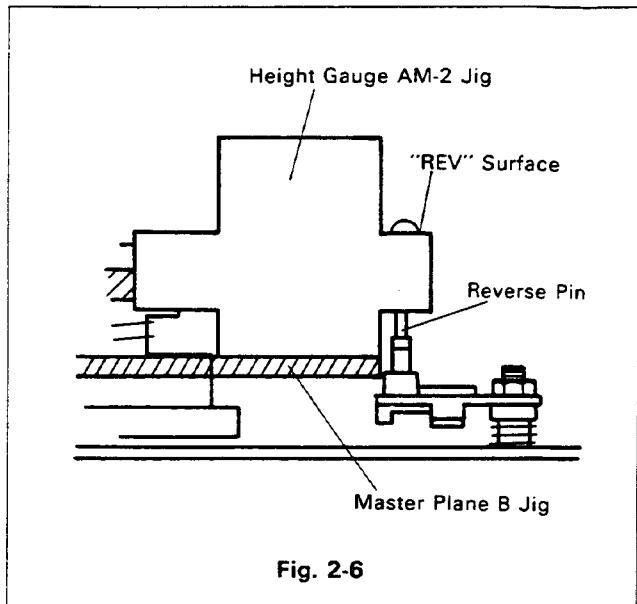

Fig. 2-6
- (3) To adjust the height of the reverse pin, place the Master Plane B-2 Jig (J-13) on the chassis, and place the Height Gauge AM-2 Jig (J-12) on J-13 with the side marked "REV" facing up as shown in Fig. 2-6. Then rotate the nylon nut to adjust to the height of the lower surface of the upper flange.